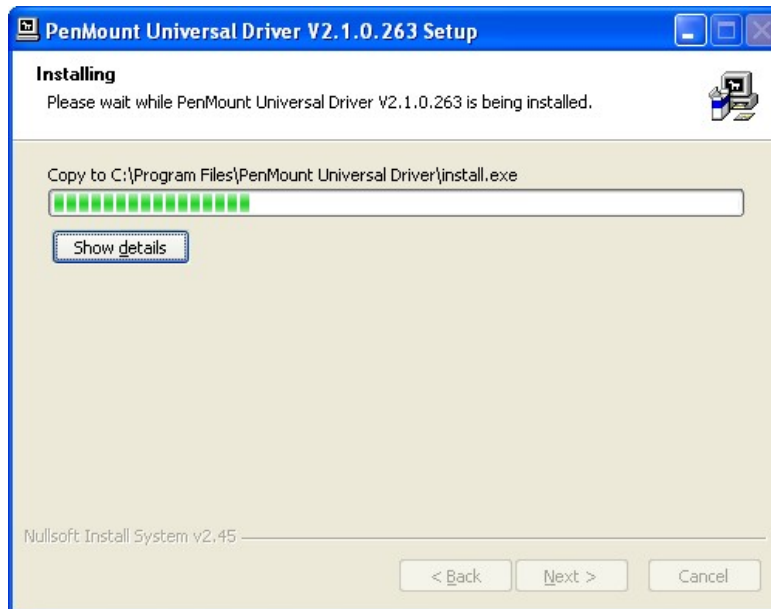

Figure 6-28: Installing PenMount Universal Driver V2.1.0.263
Step 9: The **Install** screen appears and displays the progress of the installation (**Figure 6-28**). Click **NEXT** to continue.